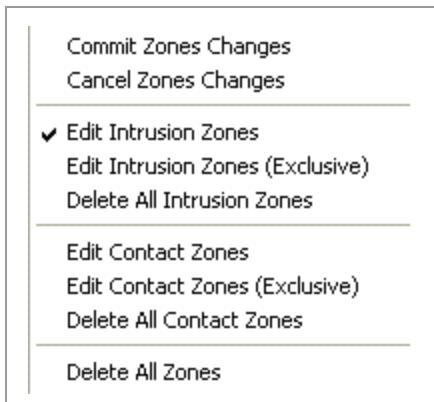

Figure 24 - Edit Menu Commands
**Figure 24** shows the Delete Zone commands from the **Edit Menu**.
After deleting one or more zones, the changes can be committed (saved) or discarded. This is accomplished using the appropriate Edit Menu command, as shown in **Figure 24**, or by using the commit button .